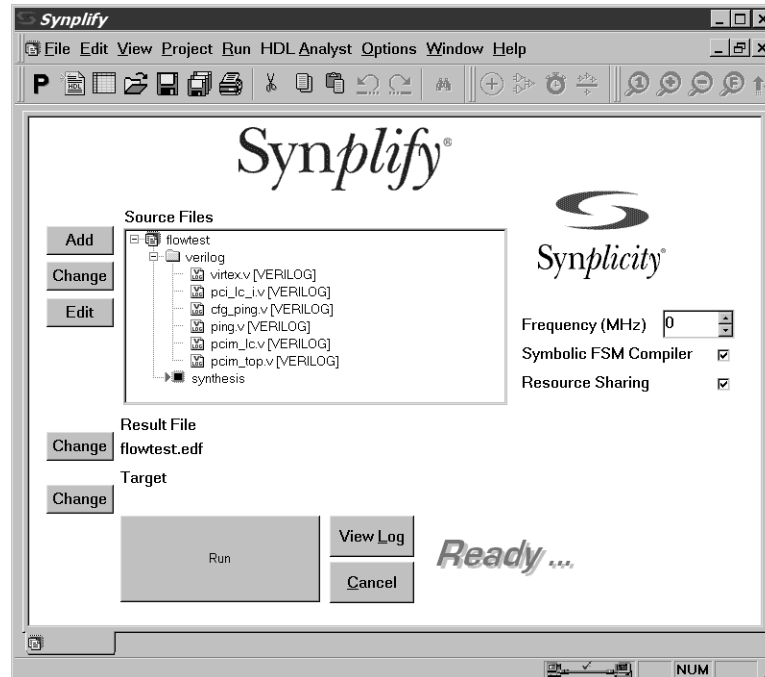

Figure 5-10: Main Project Window with Source Files
9. In the Source Files list, view the list of newly added source files by double-clicking the `flowtest/verilog` folder (if it is not already open). Reorder the source files in the folder by dragging them to list them in the hierarchical order displayed in Figure 5-10.